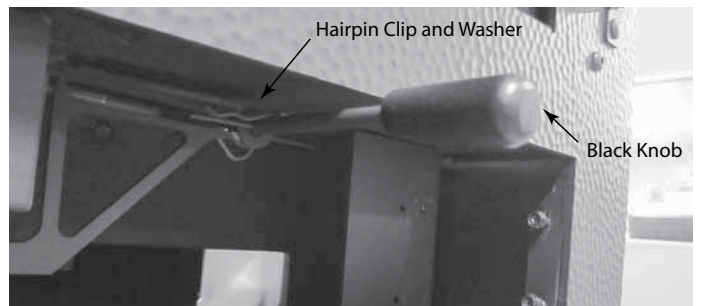

**Figure 4.26** Air Chamber Cover
12. Reinstall air chamber cover. See Figure 4.26.
2. Remove the two (2) screws in the cover. See Figure 4.26 and pull it down and off. See Figure 4.27.